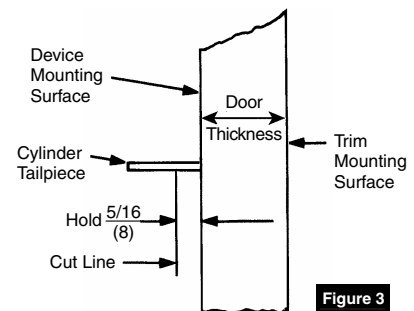

Figure 3
2. After marking door inside face for device location (Device Instructions), transfer "Vertical Reference Centerline" from inside to outside door face. (Figure 3)